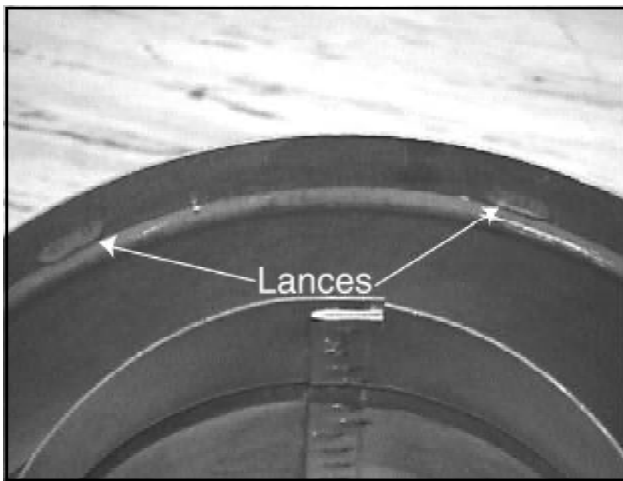

FIGURE 17.
- Slide the male end of the inner flue of the pipe section into the inner collar on the heater. At the same time, insert the outer flue into the outer collar on the heater. Push the flue section into the appliance collar until all the lances (see Figure 17) have snapped in place. Tug slightly on the flue to confirm that it has completely locked into place.